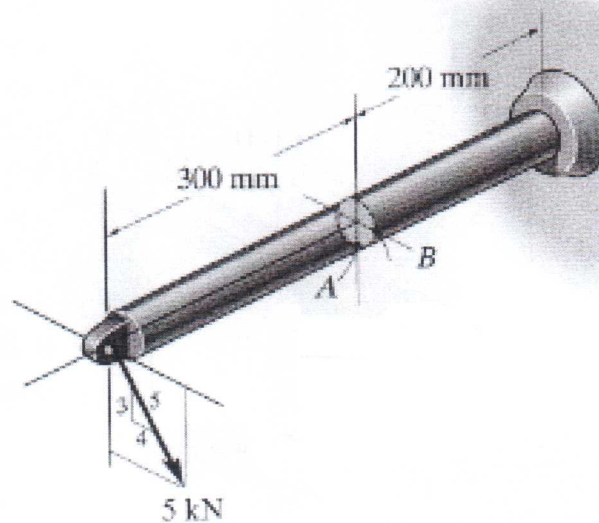

Figure 4.
- (4) The bar, shown in Figure 4, has a diameter of 80 mm. Determine the stress components that act at points  $A$  and  $B$ .